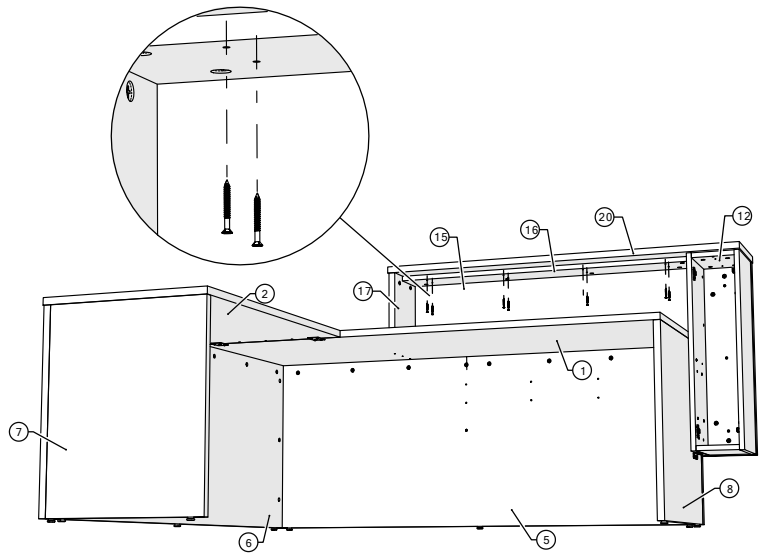

Figure 31
40. Screw in #8 x 1-1/2" Flat Head Screws into the pre-drilled holes of the waterfall false support to secure the countertop (Figure 31).